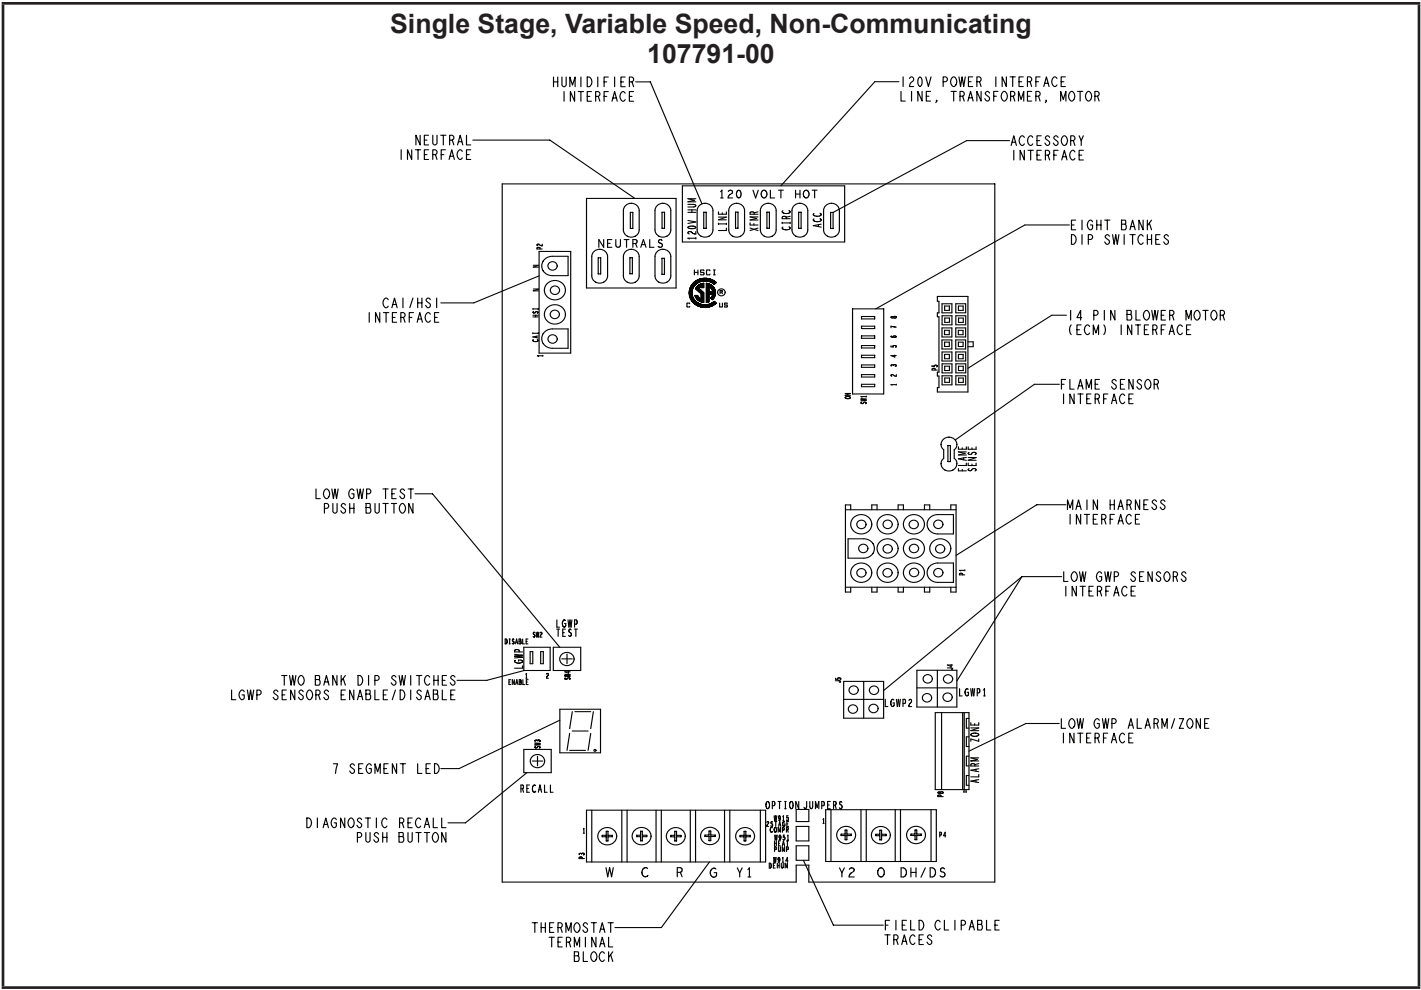

FIGURE 3
The hot surface ignition control system consisting of an integrated control (FIGURE 3) with control terminal designations in TABLE 1, TABLE 2 and TABLE 3, sensor and ignitor (FIGURE 8). The integrated control and ignitor work in combination to ensure furnace ignition and ignitor durability. The integrated control, controls all major furnace operations. The integrated control also features a RED LED for troubleshooting and two accessory terminals rated at (1) one amp. See TABLE 4 for troubleshooting diagnostic codes. The nitride ignitor is made from a non-porous, high strength proprietary ceramic material that provides long life and trouble free maintenance.
One line voltage “ACC” 1/4” spade terminal is provided on the furnace integrated control. See FIGURE 3 for integrated control configuration. This terminal is energized when the indoor blower is operating. Any accessory rated up to one amp can be connected to this terminal with the neutral leg of the circuit being connected to one of the provided neutral terminals. If an accessory rated at greater than one amp is connected to this terminal, it is necessary to use an external relay.
One line voltage “HUM” 1/4” spade terminal is provided on the furnace integrated control. See FIGURE 3 for integrated control configuration. This terminal is energized in the heating mode when the combustion air inducer is operating. Any humidifier rated up to one amp can be connected to this terminal with the neutral leg of the circuit being connected to one of the provided neutral terminals. If a humidifier rated at greater than one amp is connected to this terminal, it is necessary to use an external relay.